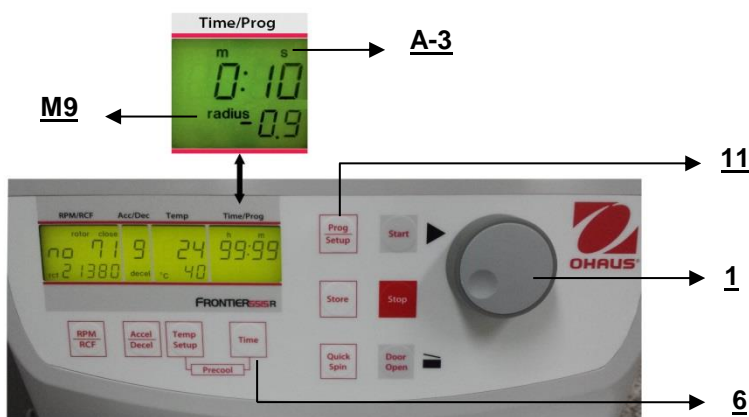

Figure. 21
If you use adapters or reducers it could change the centrifugal radius of the respective rotor. In that case you can correct the radius manually. Please proceed as follows: Close the lid, then press the key "**Time**" (6) (refer to figure 21) and the key "**Prog/Setup**" (11) at the same time and hold them.